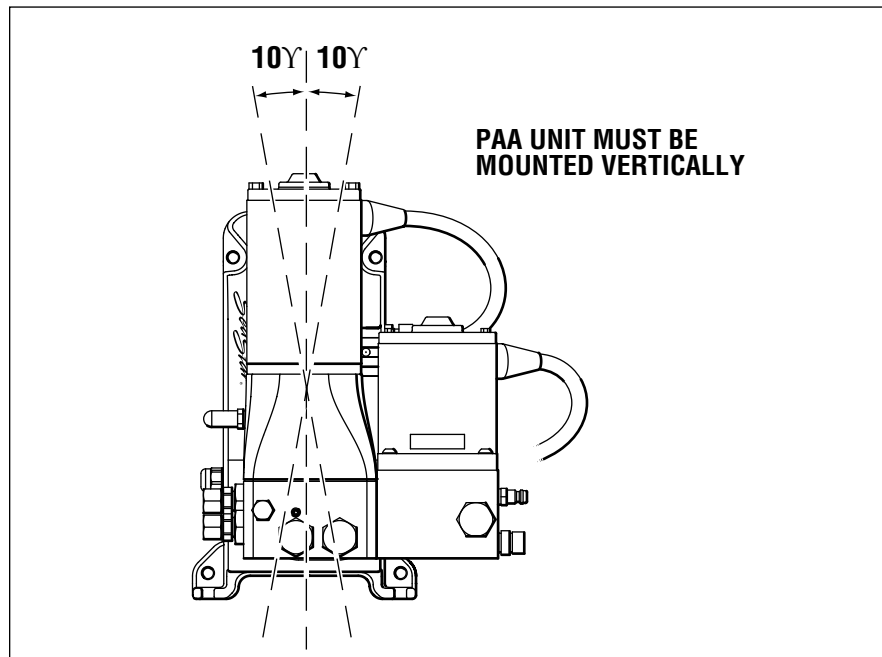

Figure 3.
- Using the four (4) holes in the mounting bracket, mount the PAA in your desired location. Prior to drilling, confirm that there is sufficient room to allow for hose connections and tightening of these hoses.
- Install the PAA in a vertical position (refer to figure 3). **DO NOT** mount the unit in a horizontal position.